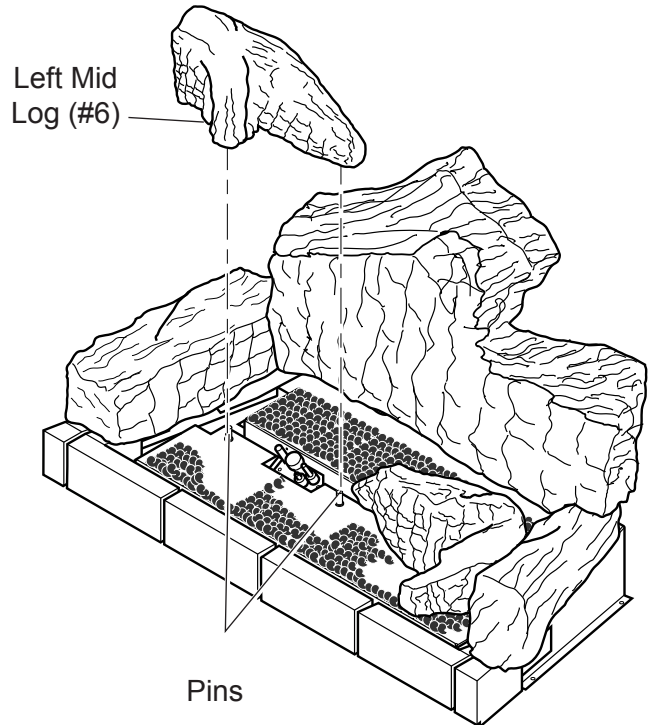

Figure 52 - Installing Right Mid Log (#6)
8. Place left mid log (#6) on two left pins on burner assembly. *See Figure 52.*